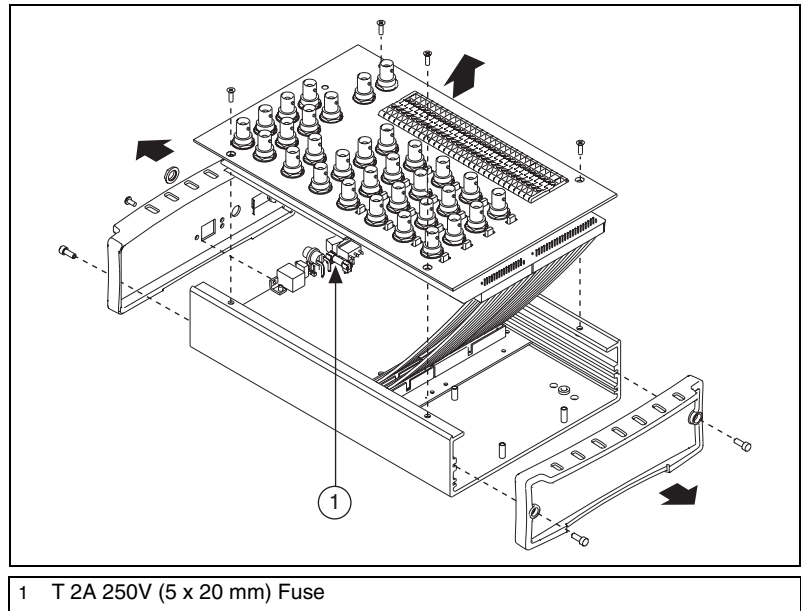

Figure 3-6. USB-62xx BNC Fuse Location
6. Replace the broken fuse while referring to Figure 3-6 for the fuse location.